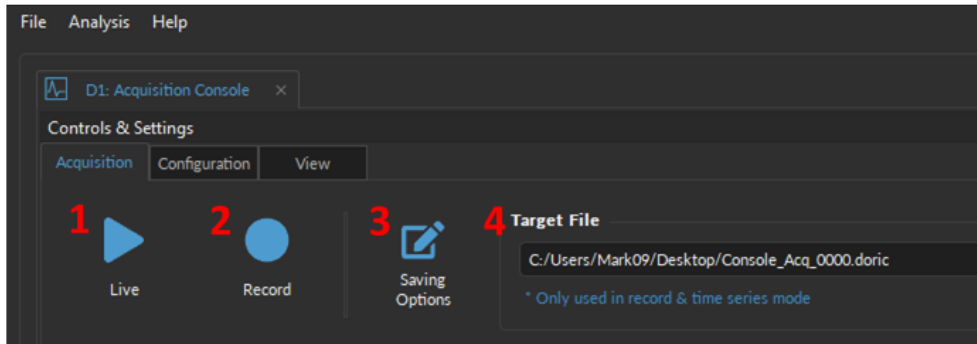
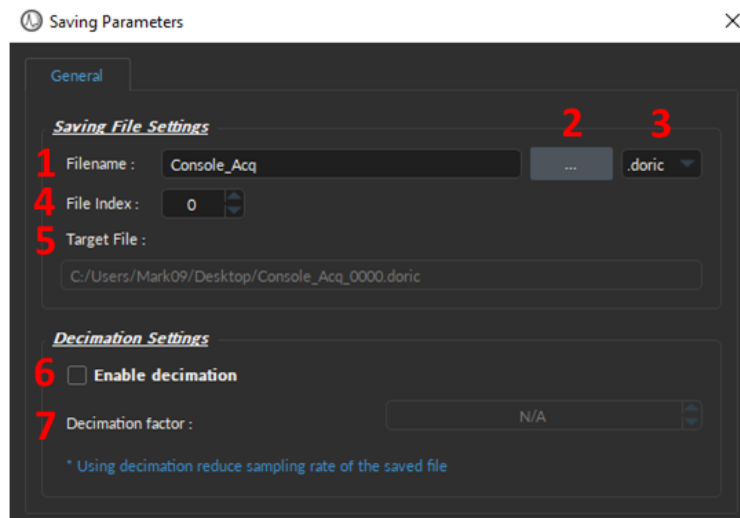

Figure 5.5: Acquisition Tab
Figure 5.6: Saving Menu Window
1. The **Live** button (Fig. 5.5, 1) activates all prepared channels. This mode does not save data, keeping only the most recent 700 000 data points in memory. This mode is not recommended for long or critical measurement sequences. **Live** mode is useful to quickly test the recording software and to ensure that the parameters were properly set.
2. The **Record** button (Fig. 5.5, 2) activates all prepared channels while periodically saving recorded data to the disk. This mode is recommended for long measurement sequences.
3. The **Saving Options** (Fig. 5.5, 3) button opens the **Saving Parameters** window (Fig. 5.6). See section 5.3.1.1 for greater details.
4. The **Target File** (Fig. 5.5, 4) displays the path and file name where the data will be stored once the **Record** button is selected. Select the **Saving Options** button to change the path and file name.
The **Saving Parameter** window is used to define how and where the file is saved. This window is opened by selecting the **Saving Options** button in the Acquisition Tab (Fig. 5.5, 3).
1. The **Filename** text-box lets users specify the name of the data file that will be saved (Fig. 5.6, 1).
2. The **[...]** button opens a File Explorer window where users can select the folder where the data will be saved (Fig. 5.6, 2).
3. The **File format** (Fig. 5.6, 3) is **.doric**, an HDF5-based format that supports metadata (signal, video, images, tables, parameters, etc.). Version 6 of *Doric Neuroscience Studio* is no longer compatible with other file formats (.csv, .excel, or .tiff). We provide Matlab, Python, and Octave codes to read **.doric** files HERE. While not recommended, it is possible to export a **.doric** file into .csv format through the **Doric File Reader** module.
4. The **File Index** (Fig. 5.6, 4) box is used to define the current indexation number used for multiple files saved during the same measurement session. The suffix is incremented automatically when recording multiple files.
5. The **Target File** (Fig. 5.6, 5) displays the absolute path and filename where the data will be saved.
6. The **Enable decimation** checkbox (Fig. 5.6, 6) provides a way to reduce the file sizes. This method conserves one point over a number of data points equal to the **Decimation Factor**.
7. The **Decimation factor** text-box (Fig. 5.6, 7) is used to define the number of points saved.¹
- *Software Command* - The recording will start when the **Record** button is selected in the **Acquisition Tab** (Fig. 5.5, 2). The **Master Start** is, by definition, always **Manual**.
The **Time Series** Window (Fig 5.9b) can be opened by clicking on the **Record** button (Fig. 5.5, 2) when the **Master Trigger** is in **Time Series** mode in the **Global Settings** window (Fig. 5.8, 2). Every **Time series** sequence is automatically saved to the .doric file defined in **Saving Options** (Section 5.3.1.1).